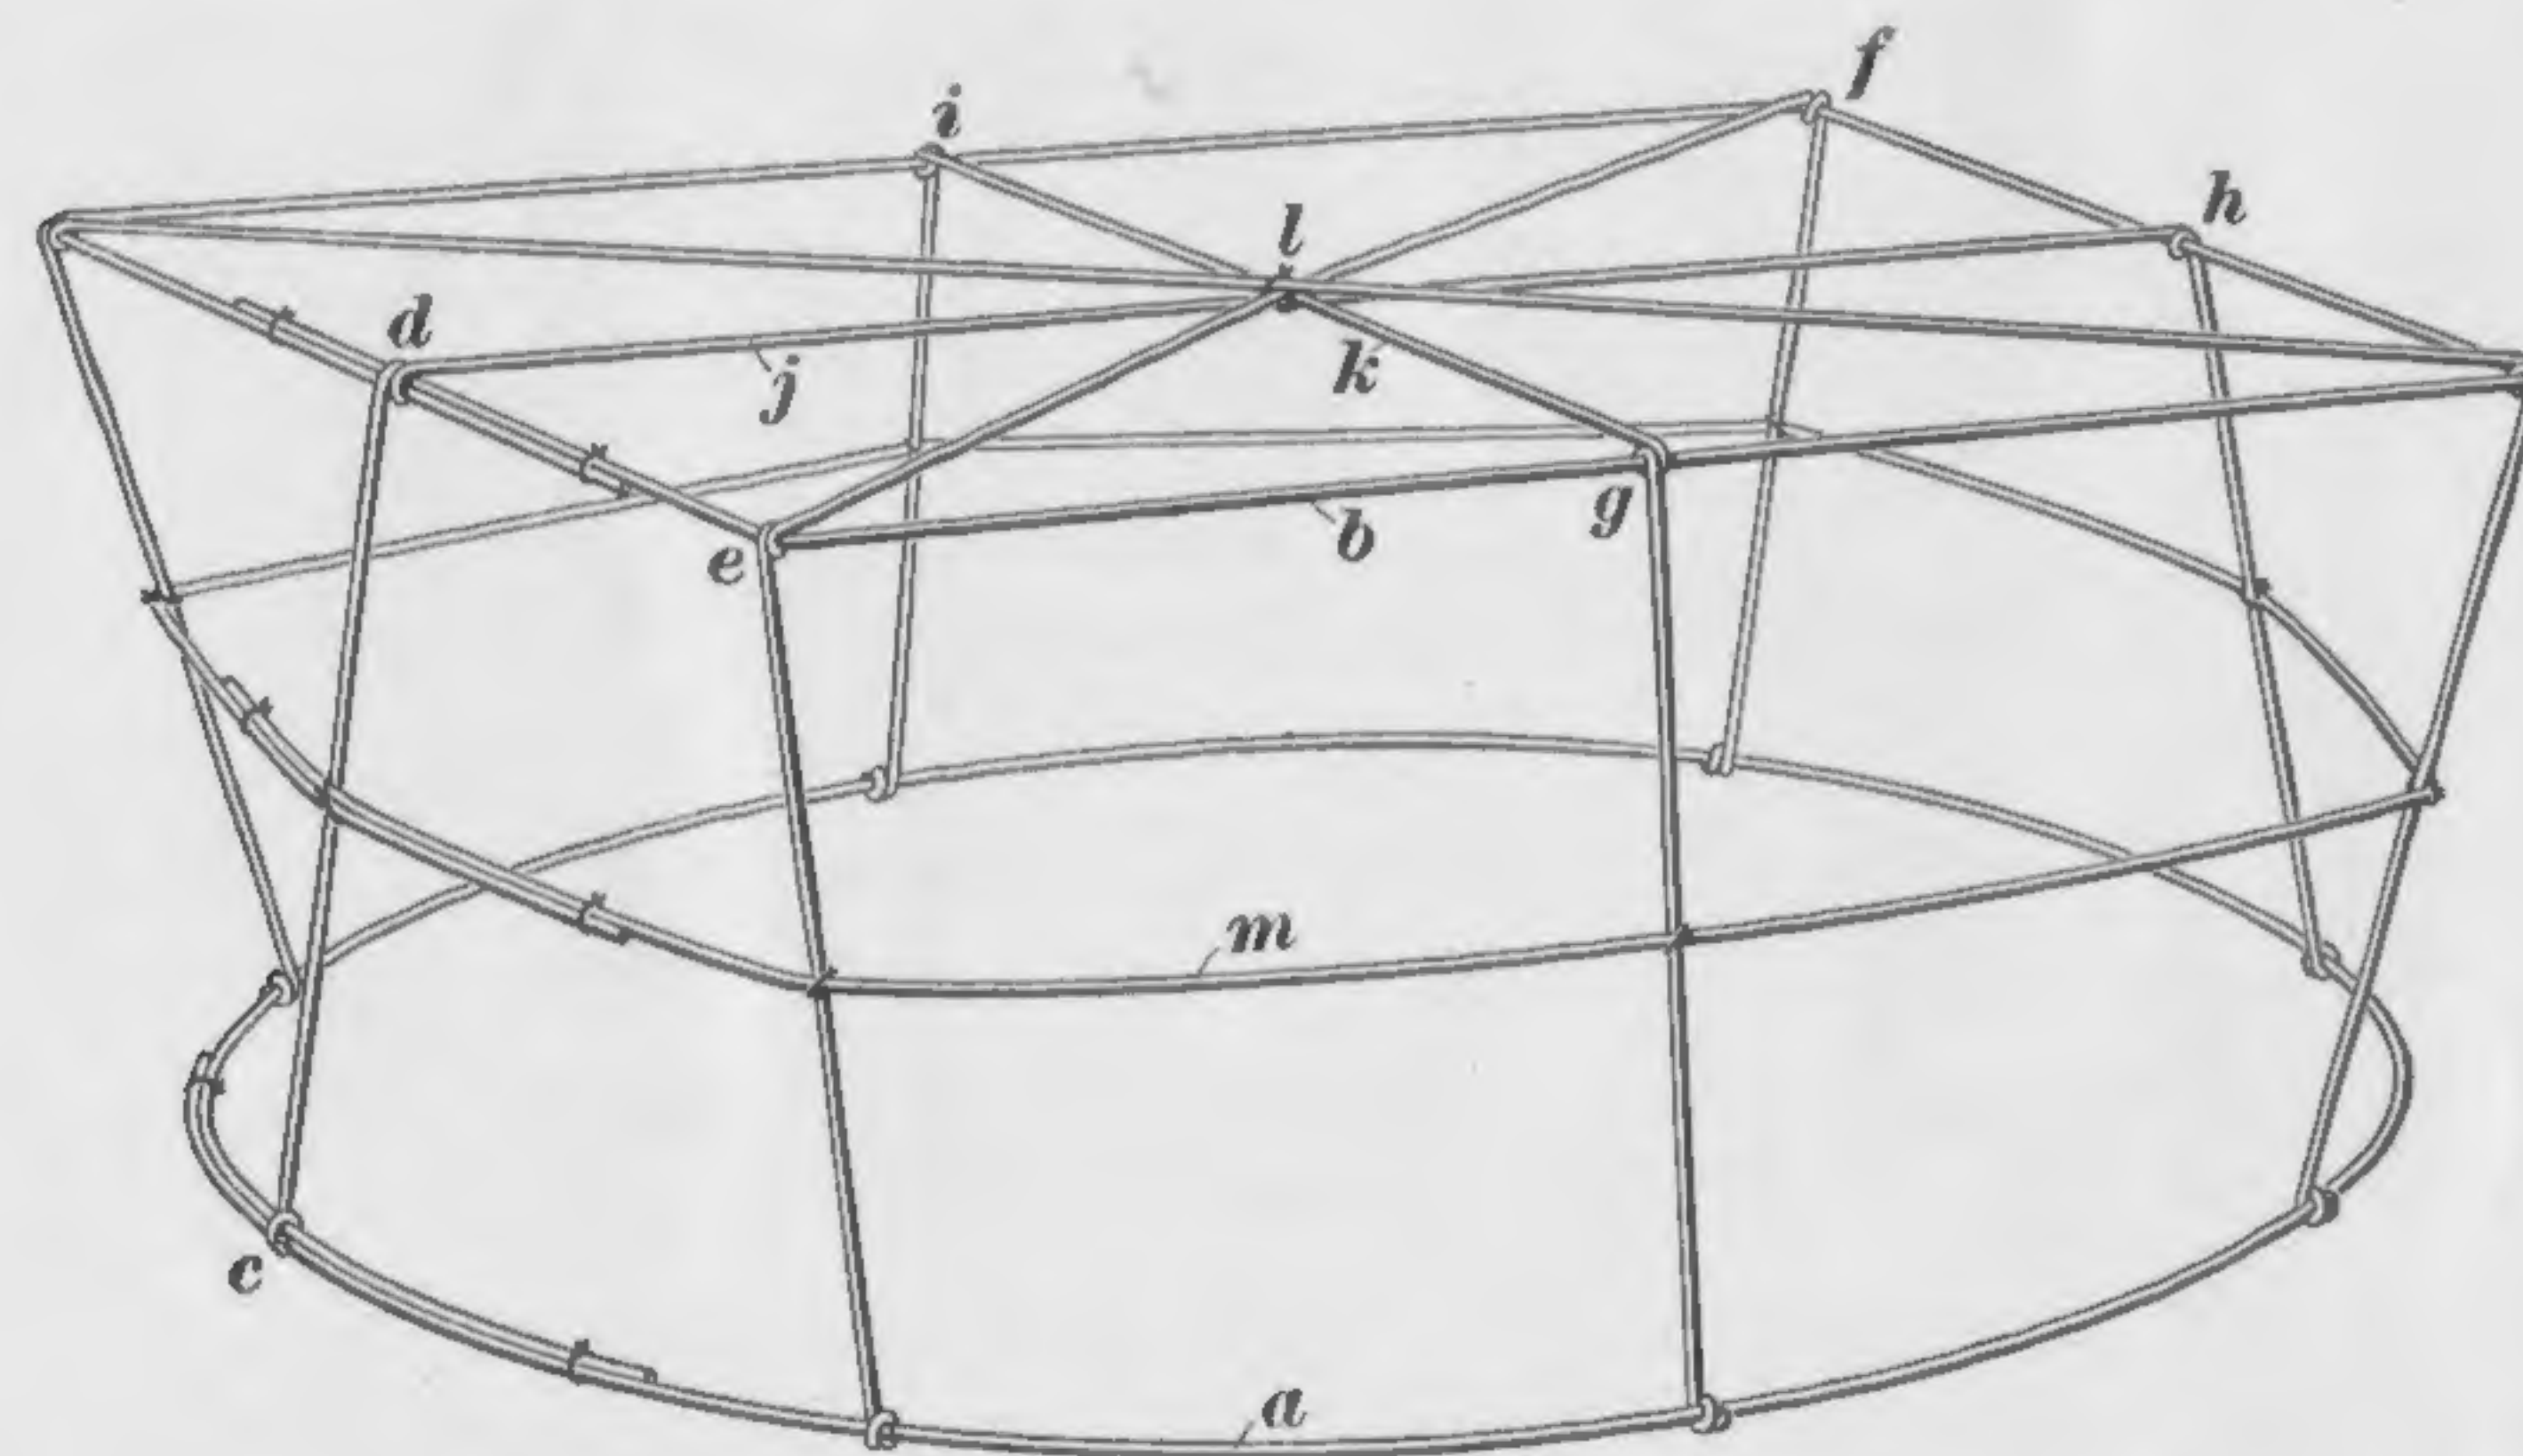

FIG. 26
43. A crown having a circular head-size wire and a square top is shown in Fig. 26. The head-size wire *a* is 24 in. around and is made in the usual way, with a 3-in. overlap. The square top brace wire *b* measures 6 in. on each side, and the height *cd* is 3 in. The
44. To construct the crown shown in Fig. 26, first mark the middle points *d*, *g*, *h*, and *i* of the square top as explained in connection